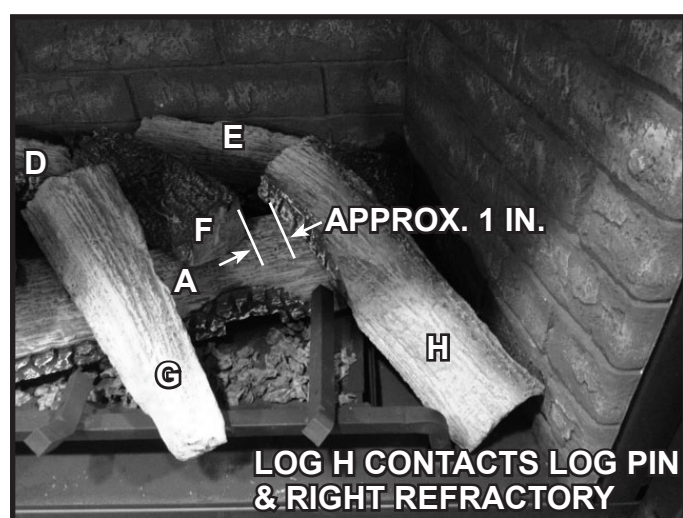

Figure 12. Log H Installed
6. **(LOG H):** Locate the pin for Log H in Figure 4. Place Log H into Appliance as shown in Figure 12. The base of the Log should rest against the log pin. The log will also contact the right refractory. The top end of the log will rest on Log A and be spaced about one inch from Log F. Figure 3 shows the completed log installation.